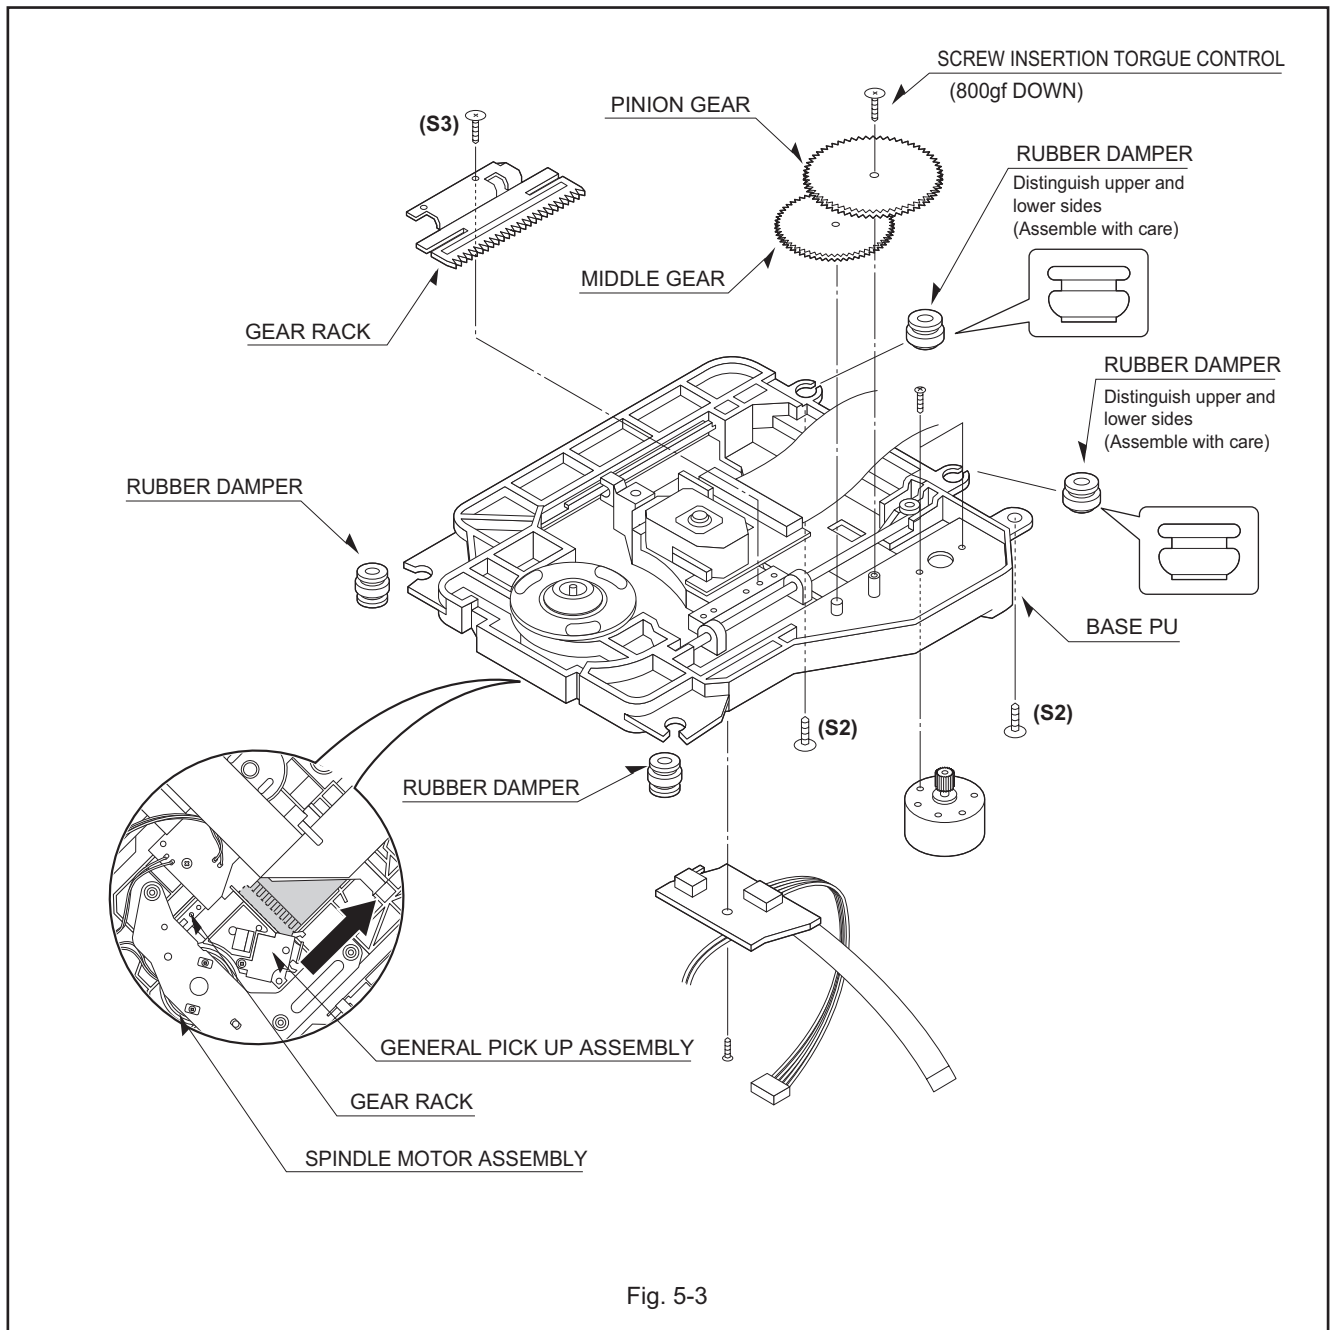

Fig. 5-3
**3. Base Assembly Sled (Fig. 5-3)**
**4. Rubber Rear (Fig. 5-3)**